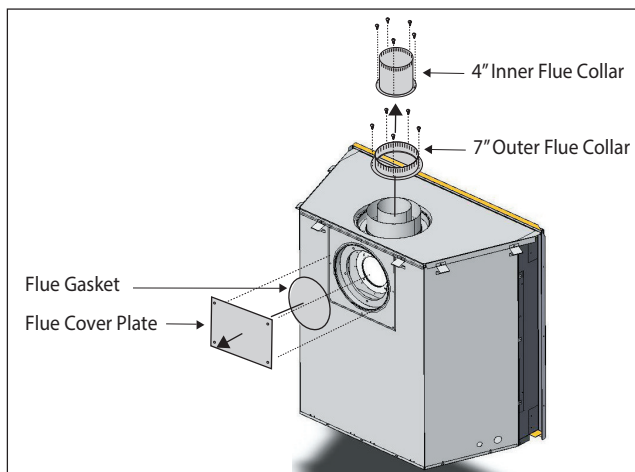

Figure 9. Flue cover and collar removal, Top Vented fireplace.
1. Remove the Rear flue cover and gasket (4" and 7") on the flue outlet, as shown in Figure 9.
2. Next, Remove the Top flue collar's (4" and 7") on the flue outlet, as shown in Figure 9.
- The fireplace must be converted to Rear Vent configuration prior to running vent, see Figure 9 and 9a.